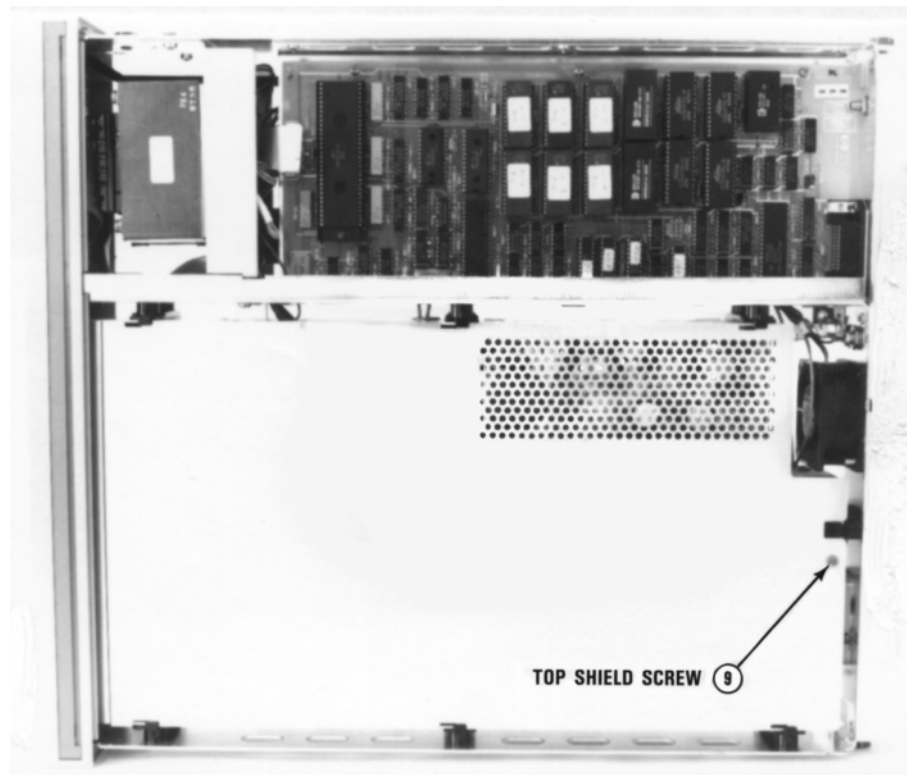

Figure 11. Remove/Install Top Shield Screw
17. Refer to Figure 11. Turn the instrument over so its bottom sits on your workbench.
3. Refer to Figure 11. Turn the instrument over so its bottom sits on your workbench.